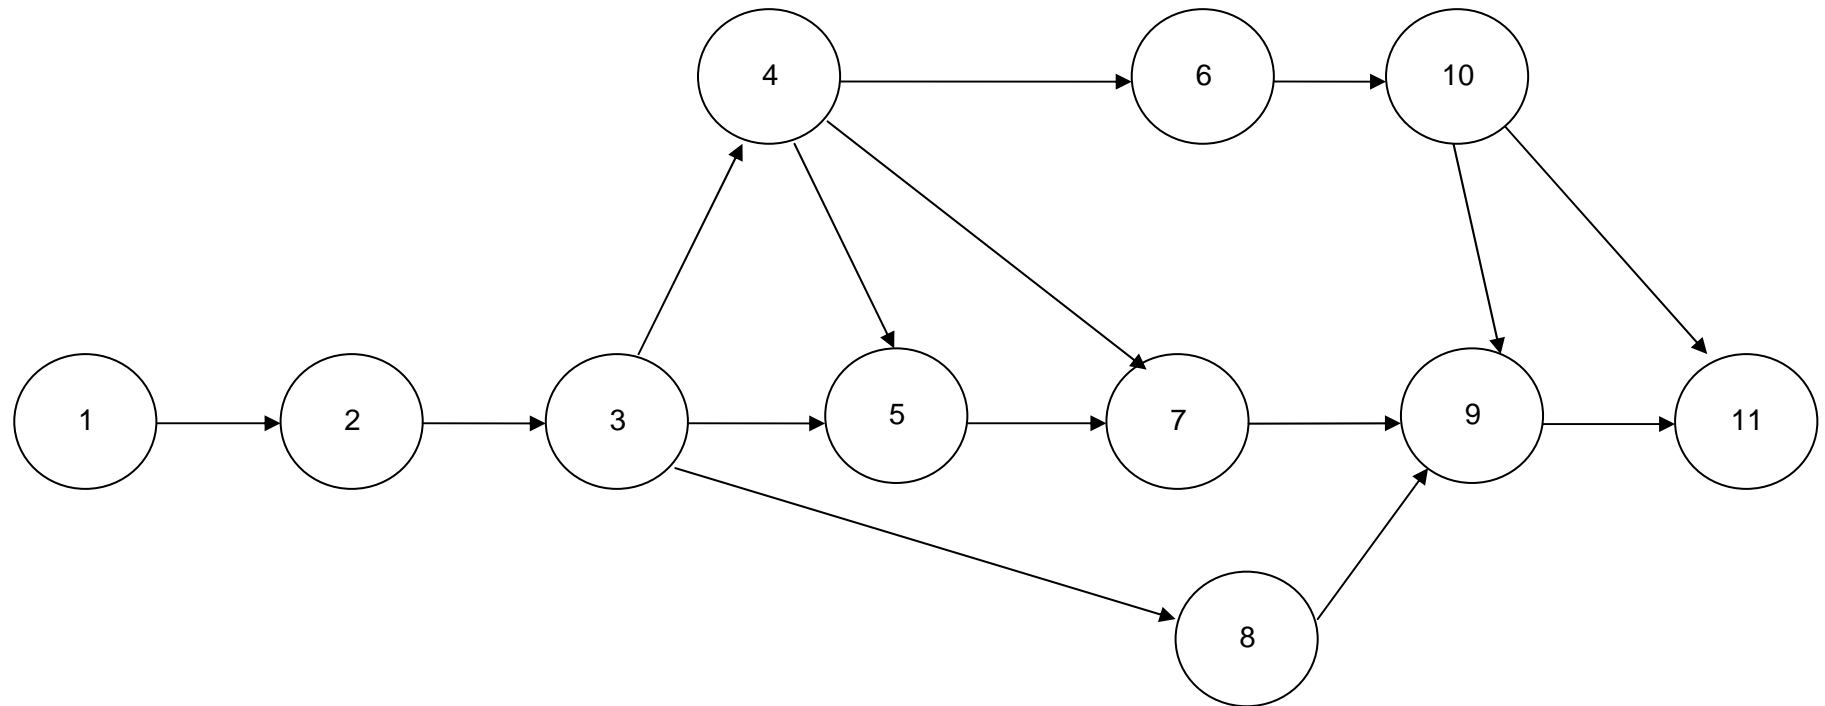

Figure 1/Rajah 1
- (b) Using the information given in **Table 1** and network diagram in **Figure 1**, draw a precedence diagram network and then fill up the boxes with the calculated values.